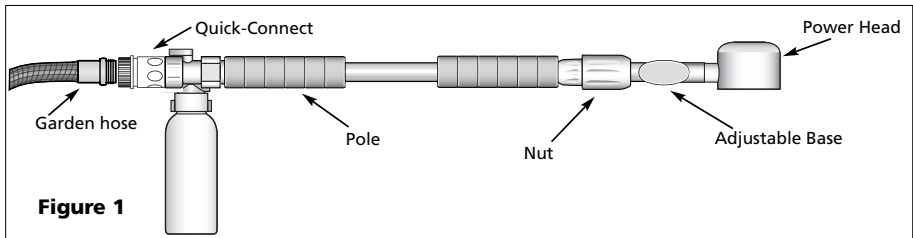

Figure 1
Hose Hook Up: Screw Quick-Connect onto standard garden hose (Figure 1).
1. Pole telescopes for longer reach. Loosen nut (Figure 1), adjust Pole to desired length, retighten nut.